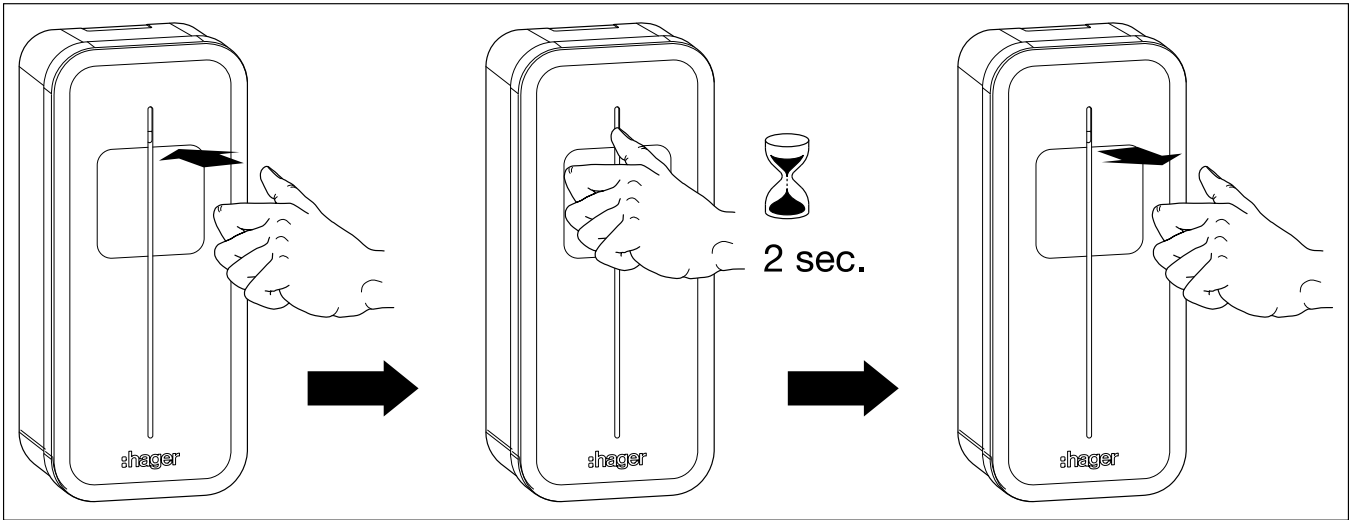

Fig. 32: Accelerating the charging operation on the charging station
- Using your thumb, keep the sensor button (contact sensor) pressed for approx. 2 seconds and then release it again (Fig. 32).